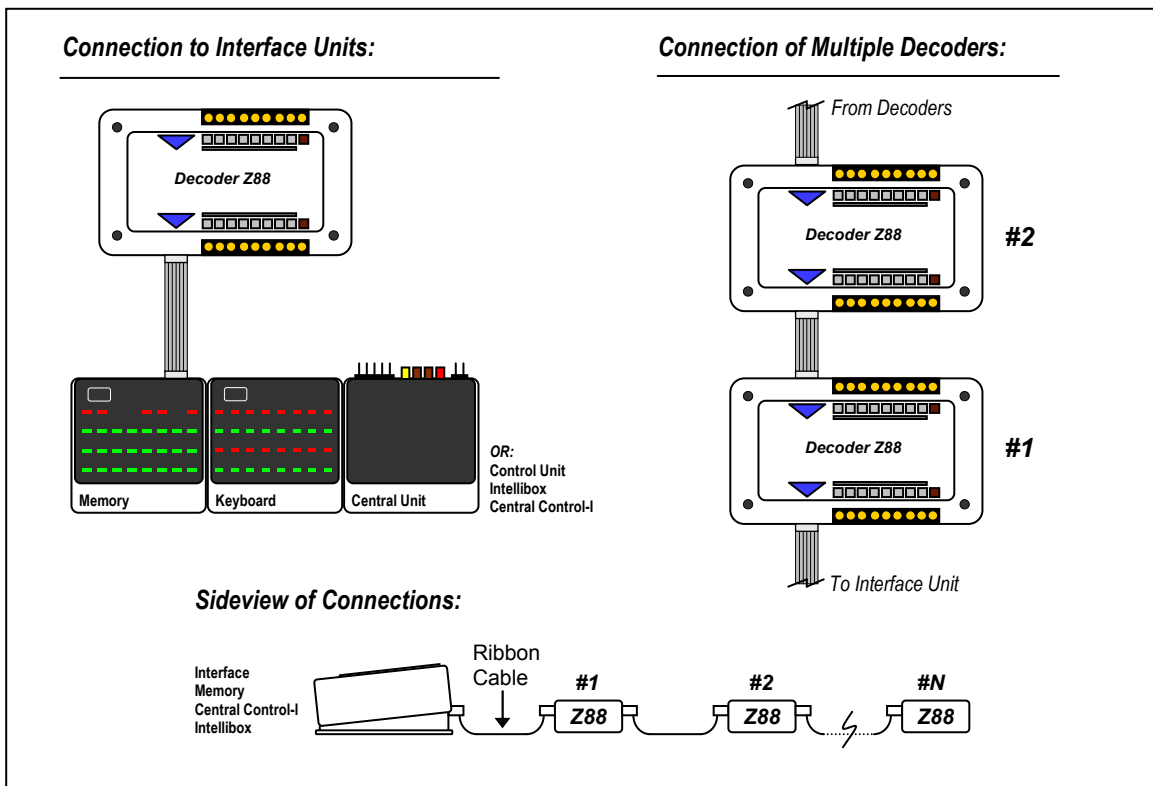

Figure 1. Connections to the Digital System
- 1) Be sure that all power to the layout is switched OFF. Using the cable supplied with the *Decoder Z88*, connect the decoder to the interface unit or another decoder as shown in Figure 1 below. Be sure to orient the cable connectors so that the ribbon cable points **downward** at both ends.